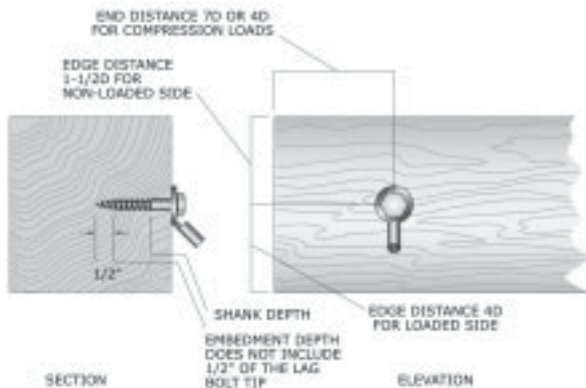

Figure 137: Spacing requirements for wood lag bolts.
Lag bolts are used to attach equipment or steel shapes to wood structures. The size and location of the anchors can be determined from construction drawings (see Figure 137 below).
**Figure 137 is allowed for cable attachment. If a strut is attached to wood, both edge distances are considered loaded and require 4 times the bolt diameter.**
Drill a hole with a drill bit the same size as the shank of the bolt. The depth of the hole is the same as the length of the unthreaded shank that will extend into the wood (see Figure 137, page 112).
Drill a hole with a drill bit that is 60% to 70% of the diameter of the shank of the bolt. The depth of the hole is the same as the embedment depth of the bolt (see Figure 137, page 112).